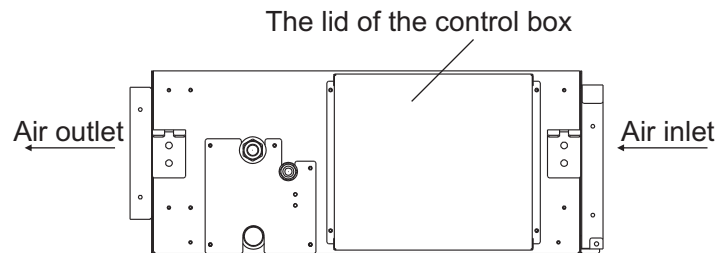

Fig.6.1 Remove the screws on the control box
- When clamping the wiring, use the included clamping material as shown in the FIG.6.1 to prevent outside pressure being exerted on the wiring connections and clamp firmly.
- (1) As shown in Fig. 6.1, remove the screws on the control box.
- (2) Connect the power cord and earth wire to the main terminal.
- (3) The remote control wire to the subsidiary terminal box.
- (4) Connect the power supply of the indoor and outdoor units to the main terminal.
- (5) Tie the wire in the control box with the clamp tightly.
- (6) After finished the wiring, seal the wiring hole with the sealing material (with the lid) to prevent the condensed water and insects entering.